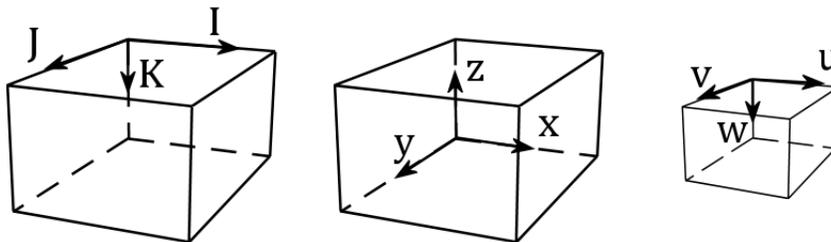

Figure 5.2. Coordinate systems used by Format 1 and Format 2.
- **I, J, K, u, v, w, [r, t].** A line contains the data for a starting location. Repeat as often as needed. Refer to Figure 5.2, [**I, J, K**] are the [column, row, layer] indexes of the cell containing the starting location; [**u, v, w**] are the local coordinates (ranging from 0 to 1) of the starting location within the cell. The origin of [**I, J, K**] is
- **x, y, z, [t]**. A line contains the data for a starting location. Repeat as often as needed. Refer to Figure 5.2,  $[\mathbf{x}, \mathbf{y}, \mathbf{z}]$  are the coordinates of the starting location; the origin of  $[\mathbf{x}, \mathbf{y}, \mathbf{z}]$  is the lowest northwest corner of the model.  $\mathbf{t}$  is the release time measured from the beginning of the flow simulation in the same time unit as the model.